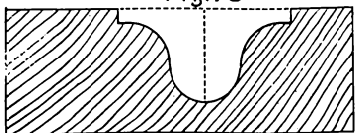
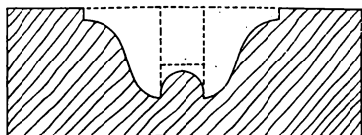

Fig. 72
Fig. 76
*Fig. 72* shows a deep moulding of rather unusual section, made by using one of the Roman Ogees from one edge of the wood, then reversing the wood and using the same cutter from the opposite edge, being careful to set the fence so that the two grooves exactly meet at the bottom, thus forming one moulding.
*Fig. 76* shows a moulding similar to *Fig. 72*, but instead of the Ogees coming together, they are divided by a bead. To make this, the Ogees are worked from opposite sides, keeping them far enough apart to leave the width of the bead intact; then reduce the extra stock remaining to the required depth with a plow cutter, and form the bead in the usual way.
*Fig. 77* is worked the same as *Fig. 76*, using the quarter round with bead, but not working it to its full depth.
*Fig. 78* is worked the same as *Fig. 76*, first using the Ogee from opposite sides but far enough apart to leave room for the two beads which are to be made with a regular beading cutter.